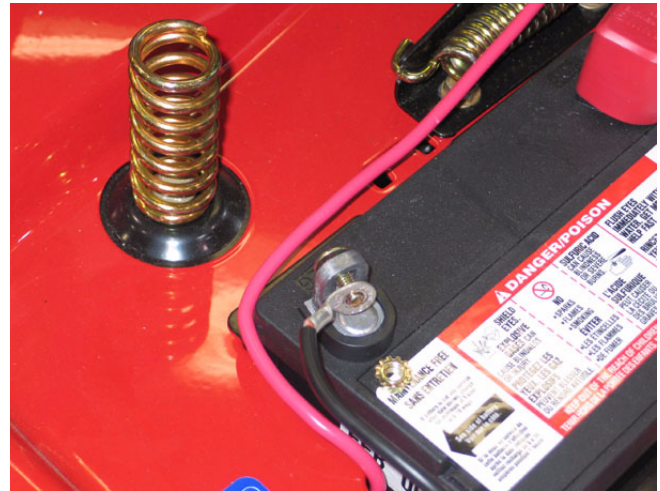

Figure 11.3
- 11.3. Remove the battery. See Figure 11.3.